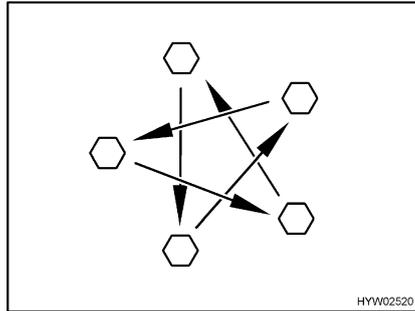

Fig. 168 Tighten the wheel nuts or wheel bolts cross-wise
- Check regularly that the wheel nuts or wheel bolts are firmly seated. Re-tighten the wheel nuts or wheel bolts of a changed wheel after 50 km (30 miles) (Fig. 168).
- When using new or newly painted rims, re-tighten the wheel nuts or wheel bolts once again after approx. 1,000 to 5,000 km (600 miles to 3,000 miles) (Fig. 168).